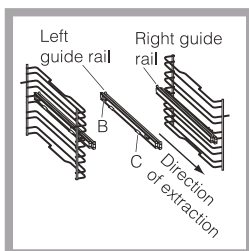

Fig.2
- Choose which shelf to use with the telescopic runner. Pay attention to the direction in which the runner is to be extracted, position joint 'B' and joint 'C' on the frame (see Fig.2).